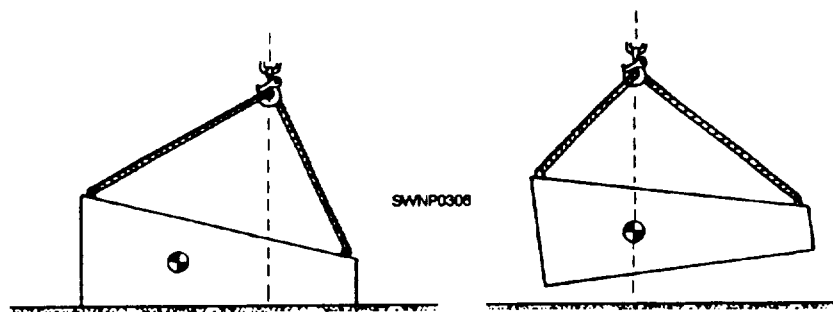

Figure 6-59.—Example of a load shifting when lifted.
17. Center of Balance. It is very important that in the rigging process that the load is stable. A stable load is a load in which the center of balance of the load is directly below the hook, as shown in figure 6-59. When a load is suspended, it will always shift to that position below the hook. To rig a stable load, establish the center